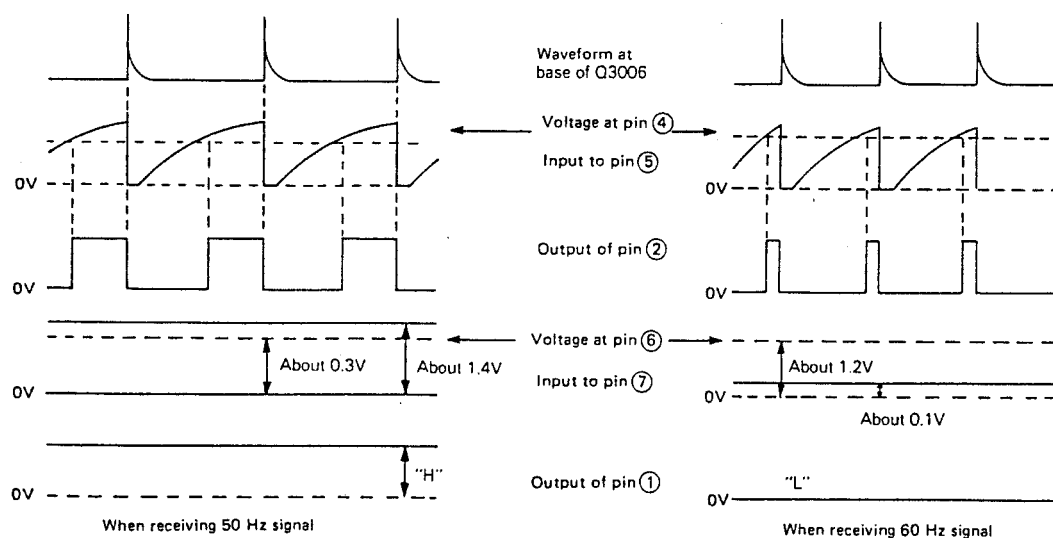

Figure 3-20 Waveform at Each Pin of 50 Hz/60 Hz Discriminator circuit IC3001
As shown in Figure 3-20, the sawtooth wave coming into pin ⑤ is compared with the voltage at in ④ and then there is caused an output pulse at pin ②. In the case of receiving 50 Hz sync signal, the output pulse available at pin ② has the longer duration of its High level, while it has the shorter duration of its High level in the case of receiving 60 Hz sync signal.